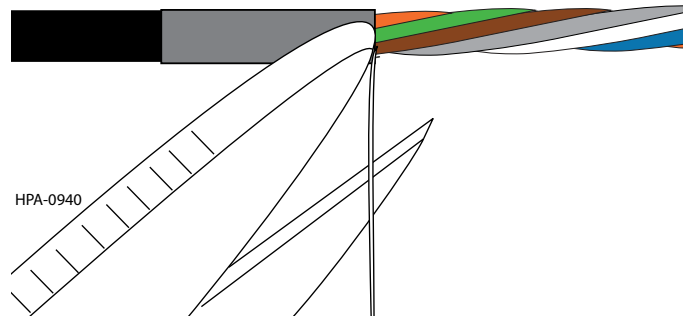

Figure 8
Step 12: Unravel the yarns down to the tape wrap and snip off the yarns (use great care when cutting close to the buffer tubes due to the small buffer tube size) (Figure 8).